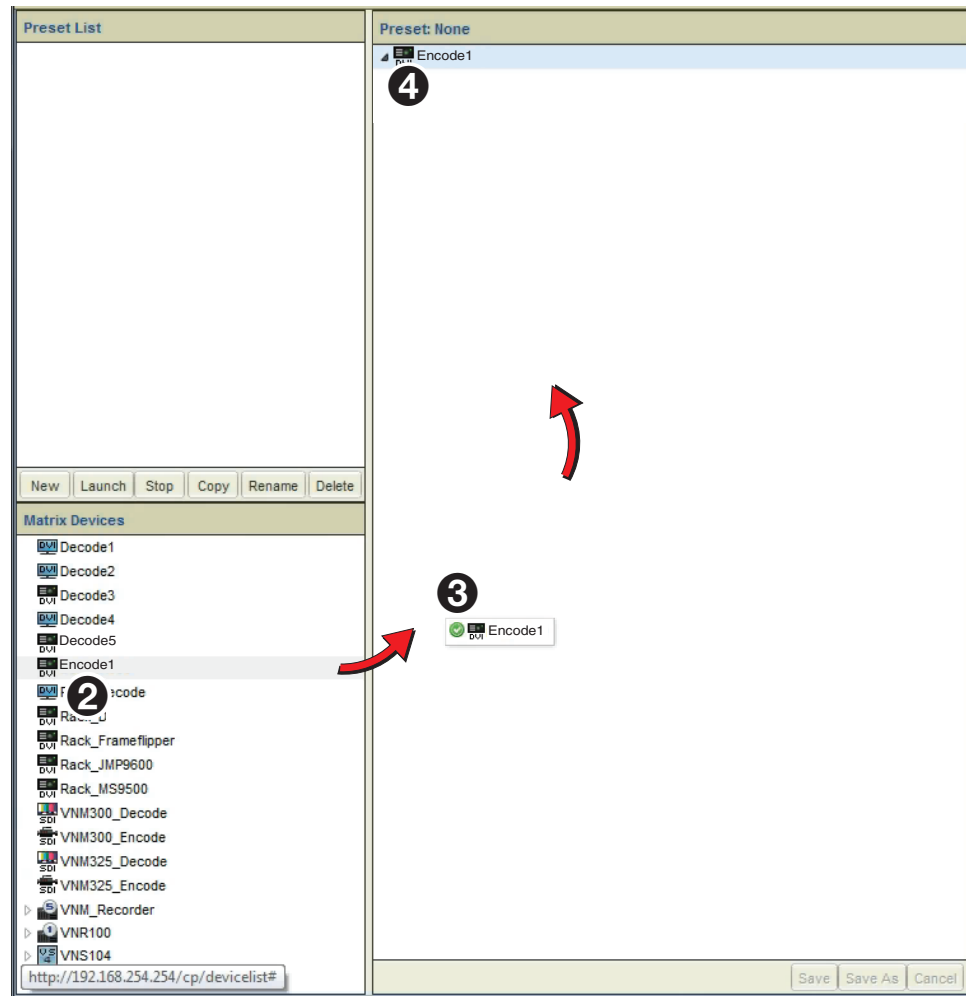

Figure 96. Preset Workspace, Place a Device
2. Add an encoder to the **Preset** panel. Click and hold the encoding device (see figure 96, ②).